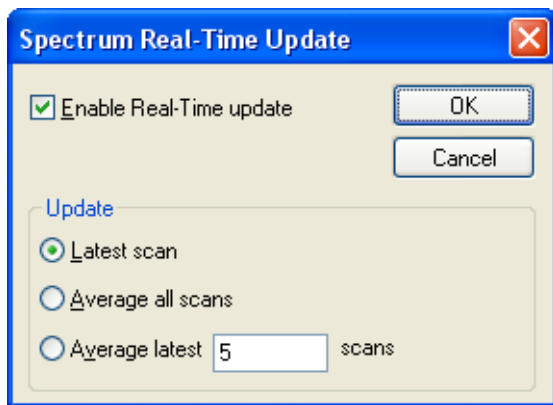

Figure 5-4 Spectrum Real-Time Update Dialog Box
2. Select Display > Real-Time Update to open the Spectrum Real-Time Update dialog box (Figure 5-4).